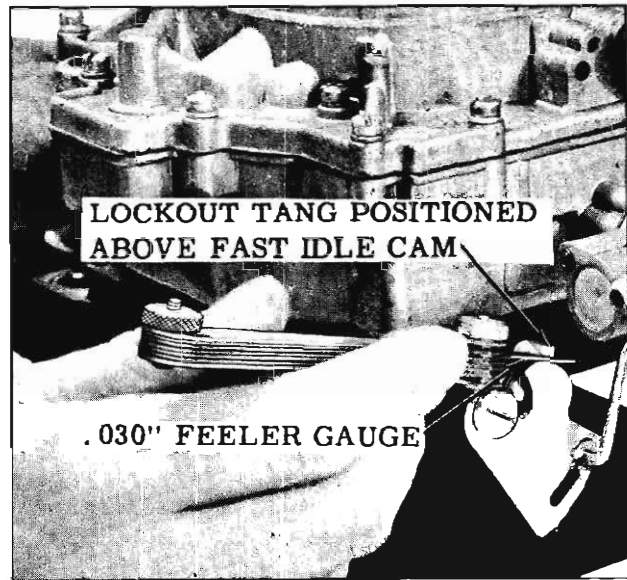

Fig. 4-27 Secondary Throttle Contour Clearance Adjustment
1. Hold the choke valve in the wide open position so that the secondary lock-out tang is positioned over the fast idle cam, then measure the clearance between the tang and the fast idle cam. The clearance should be $.030'' \pm .010''$. (Fig. 4-27)